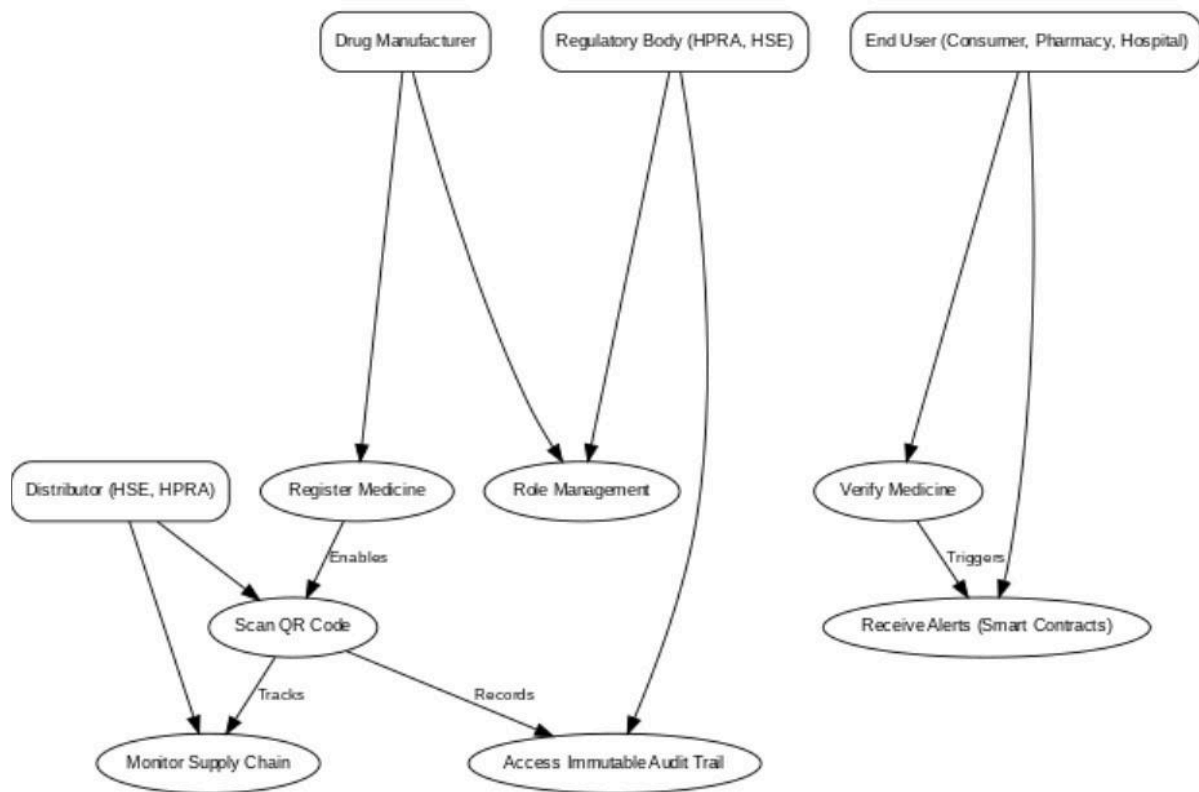

Fig 5: User Access Control Chart
- 1. Fig 5 describes role-based access control